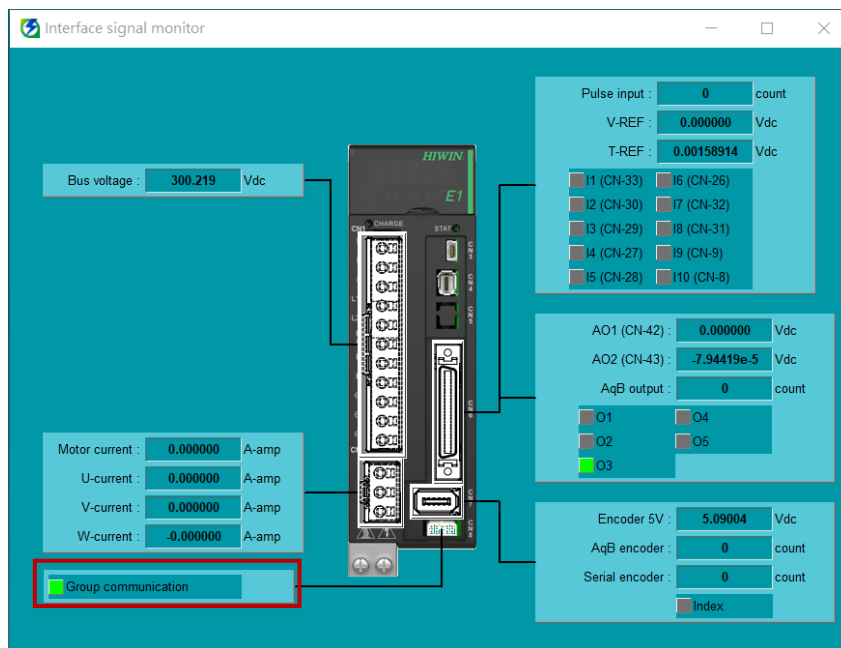

Figure 3.2.1.2 (Take E1 series servo drive as an example)
3. Open **Interface signal monitor** window in Thunder main window of any axis to ensure the communication is established, as the red frame in Figure 3.2.1.2 shows.